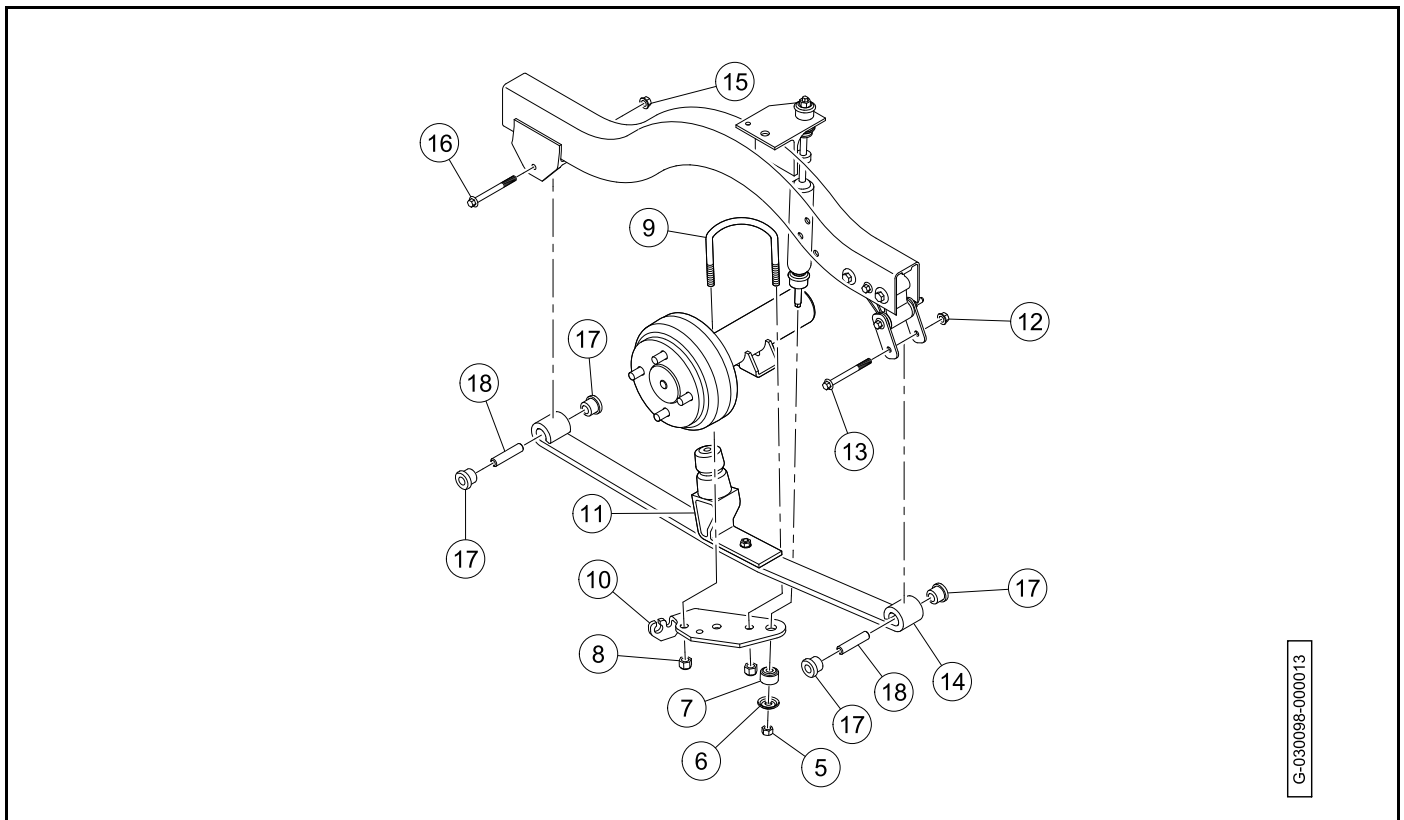

Figure 9-10 Leaf Spring Removal - Four-Passenger
7. Remove the cable end (3) from the brake lever.
8. Remove the brake cable from the shock mount bracket (4).
9. Remove the nut (5), cup washer (6), and rubber bushing (7) from the bottom stem of the shock absorber (**Figure 9-10, Page 9-9**).